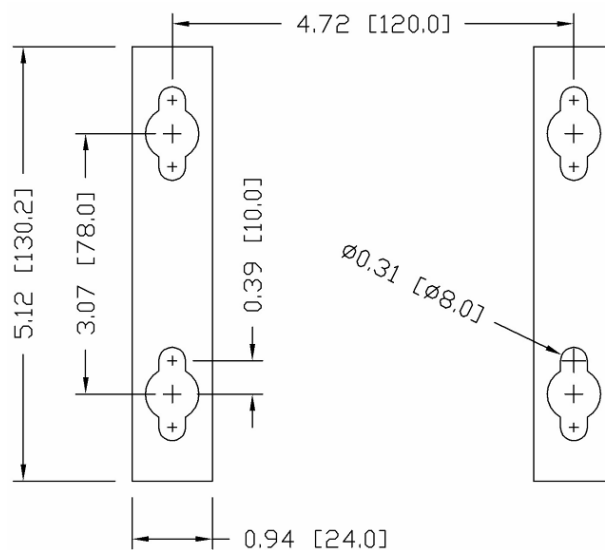

Figure 3-13: Wall Bracket Mounting Hole Pattern
4. Mark the position of the mounting holes on the vertical surface per the dimensions shown in Figure 3-13 or by holding the terminal up to the surface and marking through the bracket holes. Dimensions are provided in inches and [mm].